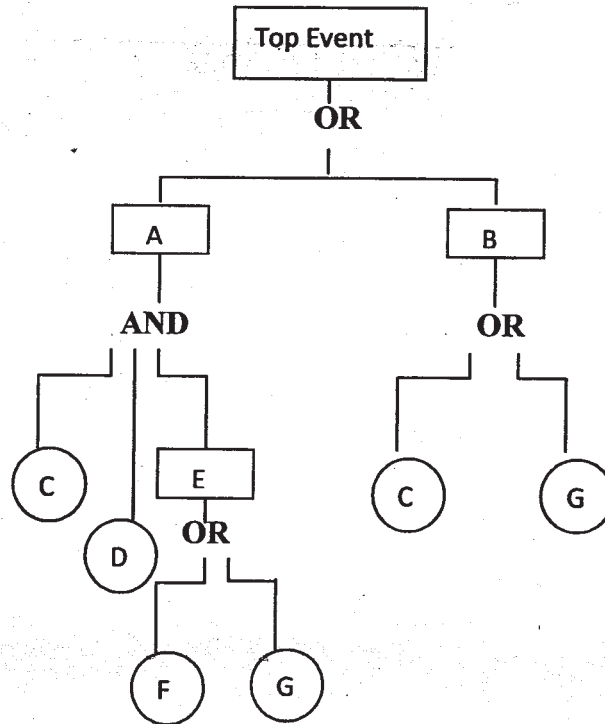

Fig.2
- b) Construct a reliability block diagram Fig.2 for given fault tree. [8]